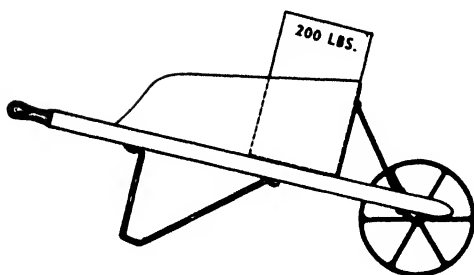

FIG. 70. WHEELBARROW.
7. A box weighing 200 lbs. is being moved in a wheel barrow, Fig. 70. The load is 18" from the axle of the wheel and the hands are 4½' from the axle. Make an accurate diagram and calculate (a) the effort needed to lift the handles (b) the M. A.